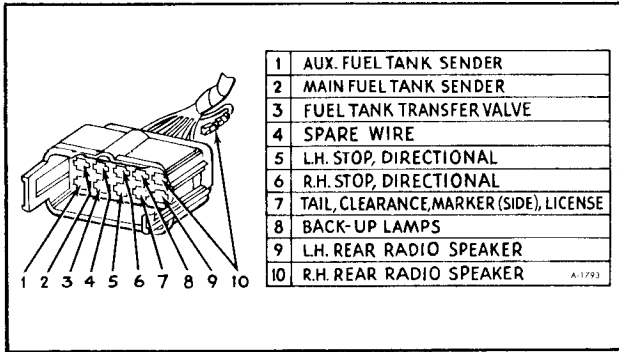

Figure 15-Left-Side Body Wiring Connector
Wiring for rear lighting, fuel tanks and rear speakers passes through a (10) way multiple connector located in the front L.H. corner of the instrument panel. Rear lighting circuits can be checked for continuity through the female portion of this connector. Figure 15 shows the (10) way multiple connector and the appropriate wire position in the connector body. Refer to the vehicle wiring diagram for wire size and code used in the rear end wiring.